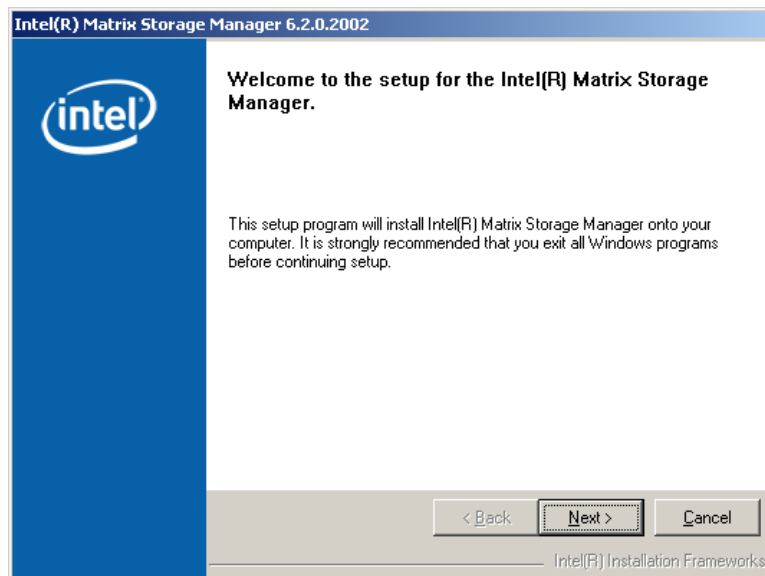

Figure 6-27: Matrix Storage Manager Welcome Screen
Step 6: Figure 6-27 shows the Matrix Storage Manager welcome screen.